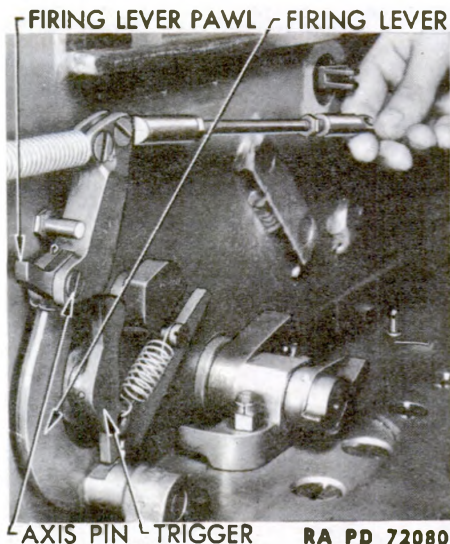

Figure 117 – Breech Casing Firing Mechanism – Adjustment
(3) **TO ADJUST BREECH CASING FIRING MECHANISM FOR SINGLE FIRE.** If gun will not single fire, adjust the clearance between the firing lever pawl and the trigger. The pawl pivots on an axis pin mounted through lugs on the firing lever (fig. 117). To adjust, disconnect the front firing rod link from the firing crank by removing the cotter pin and axis pin. Loosen the firing rod link lock nut. Screw the firing rod link in or out to adjust the clearance. Tighten the lock nut. Connect the firing rod link to the firing crank.